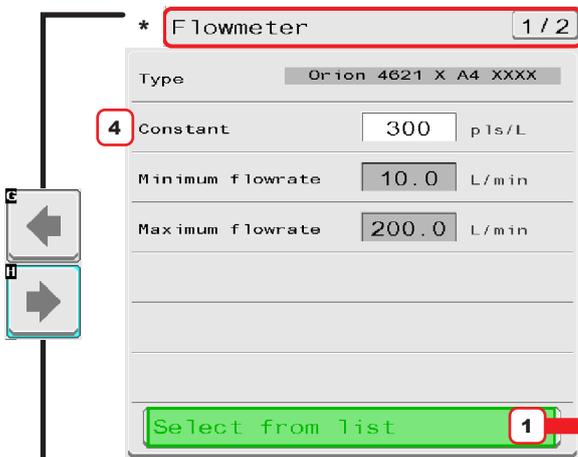
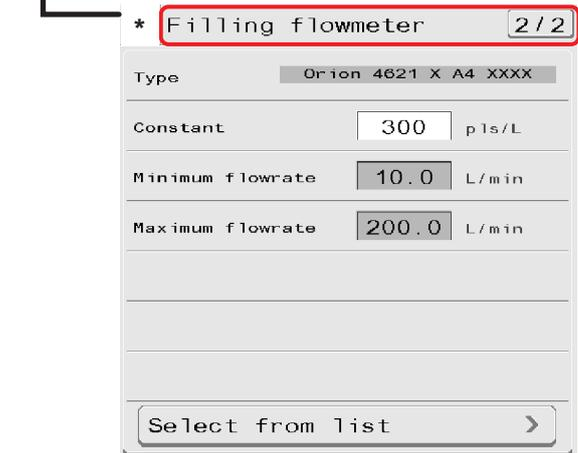

Fig. 40
Fig. 42
* Use keys H and G to move between the pages Flowmeter (Fig. 40) and Filling flowmeter (Fig. 42).